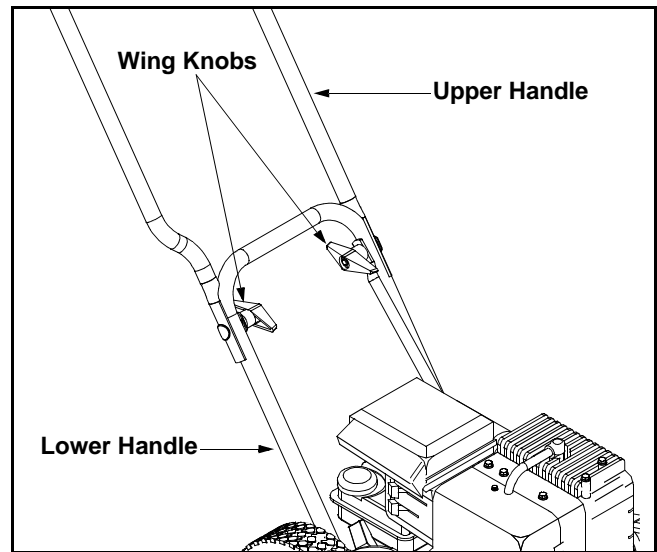

Figure 3
- Tighten the wing knobs which are located on both the left and right sides of the handle. See Figure 3.